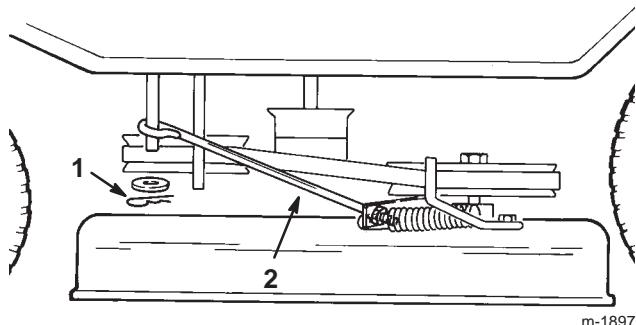

Figure 41
17. Install the blade control rod onto the blade control arm and secure it with the washer and hairpin cotter (Fig. 41).